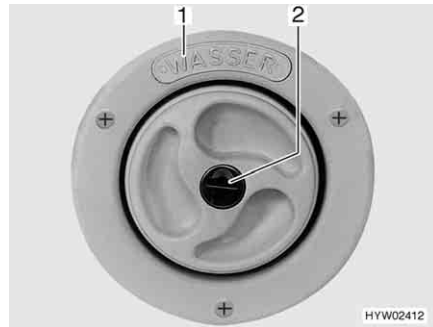
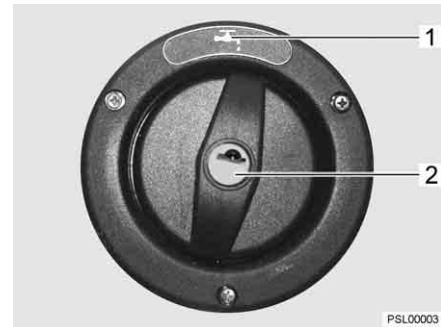

Fig. 44 Cap for the drinking water filler neck
Fig. 45 Cap for the drinking water filler neck (alternative)
- ▷ The drinking water filler neck is labelled by the word "WASSER" (water) (Fig. 44,1) or marked by the symbol "☰" (Fig. 45,1).
- Insert the key in the locking cylinder (Fig. 44,2 or Fig. 45,2) and turn it in an anticlockwise direction.